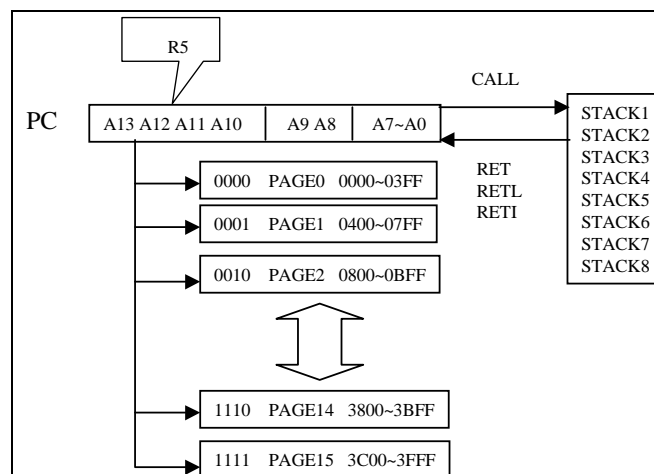

Fig. 7-1 Program Counter Organization
- The structure is depicted in Fig. 7-1